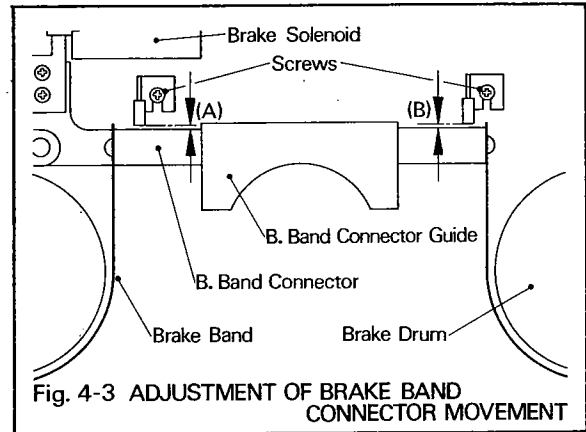

Fig. 4-3 ADJUSTMENT OF BRAKE BAND CONNECTOR MOVEMENT
- Depress the PLAY BUTTON (46) and the STOP BUTTON (45) repeatedly, and check that the BRAKE BAND CONNECTOR moves up and down properly.
- Check that the BRAKE BAND CONNECTOR is about 1mm away from the BRAKE BAND CONNECTOR STOPPERS (indicated (A) and (B) in Figure 4-3) when the tape transport is in the STOP operation. When the measurement is beyond a reasonable tolerance from the specified figure, loosen the BRAKE BAND CONNECTOR STOPPER SCREWS and adjust the position of the BRAKE BAND STOPPERS.